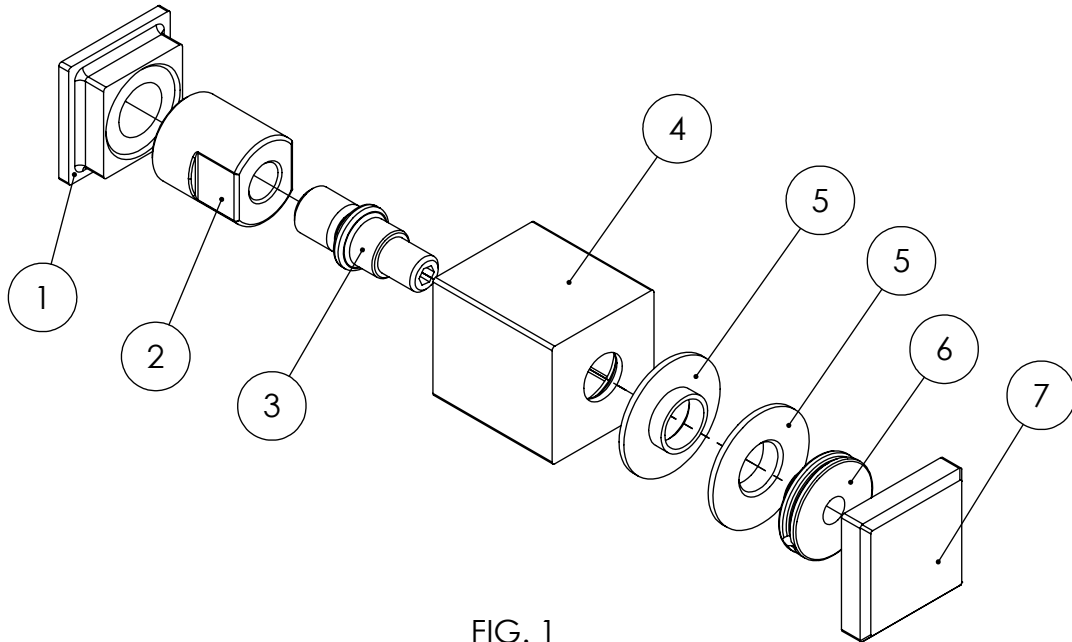

FIG. 1
- All parts shown in FIG. 1 included in the box.
- Refer to FIG. 1, insert Part 2 in Part 1, then secure them by using a spanner.